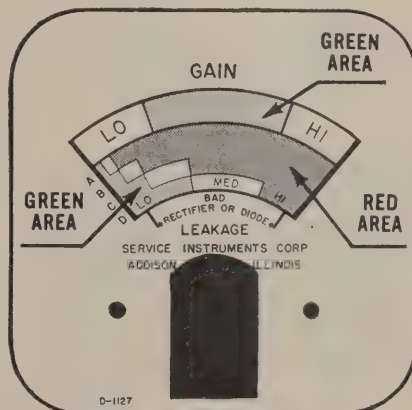

FIG. 2. Full size TRC4 meter scale.
4. Read leakage on the scale indicated in the chart. An average transistor should read in the green area of the scale indicated. See Fig. 2
3. A rectifier or diode with good forward current will indicate to the right of the arrow on the lowest scale on the meter. See Fig. 2